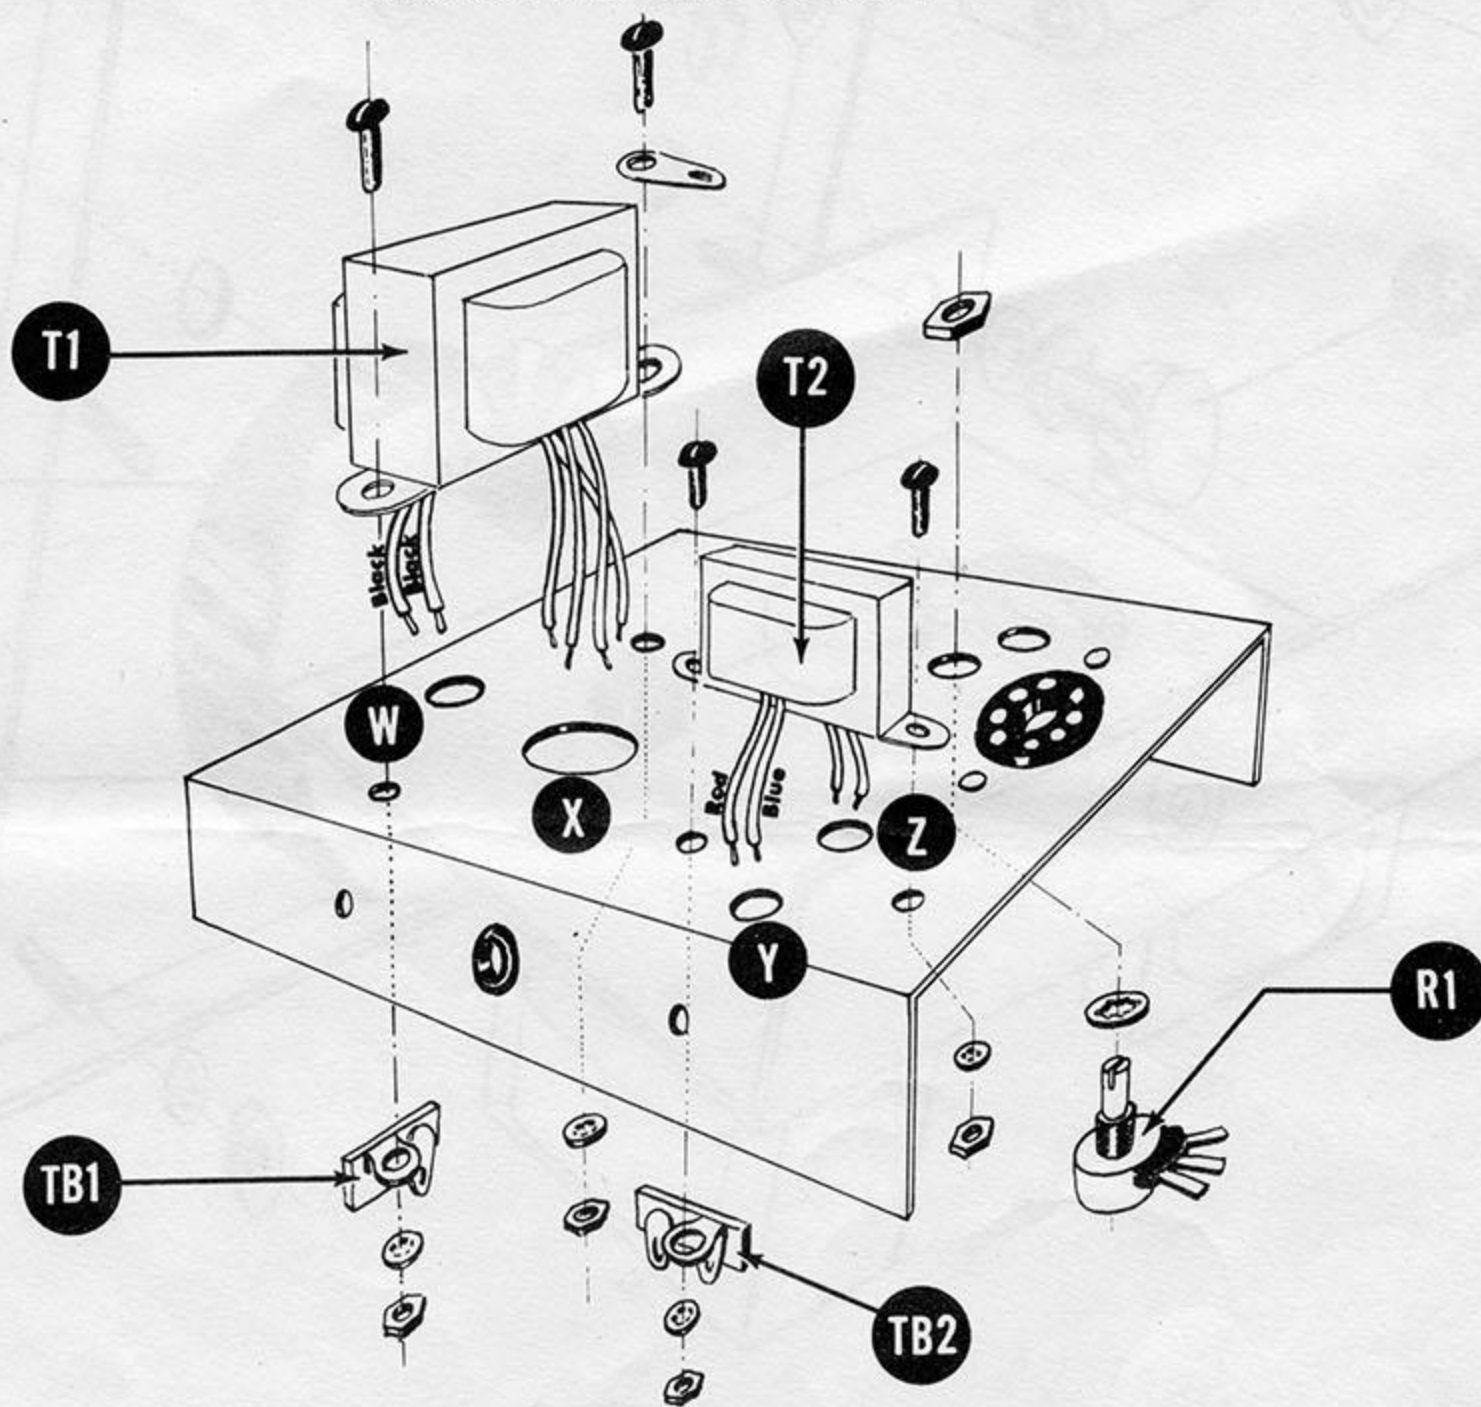

Fig. 1
- (✓) Fig. 1. Pass the black leads of power transformer T1 thru hole "W" and the remaining leads on the other side of the transformer thru hole "X". Then mount transformer T1 on the chassis together with the 1-post terminal strip TB-1 and the #6 ground lug as shown. Use two 6-32 X 1/4" screws, two #6 lockwashers and two 6-32 hex nuts.
- (✓) Fig. 1. Pass the red and blue leads of oscillator transformer T2 thru hole "Y" and the remaining leads on the other side of the transformer thru hole "Z". Then mount transformer T2 on the chassis together with terminal strip TB-2 (1 insulated post, 1 grounded post). Use two 6-32 X 1/4" screws, two #6 lockwashers, and two 6-32 hex nuts.
- (✓) Fig. 1. Insert 3/8" rubber grommet for line cord in chassis hole located in the figure.
- (✓) Fig. 1. Mount the 2 MΩ slotted shaft potentiometer R1. Use one 3/8" lockwasher and one 3/8" hex nut. See following figures for orientation.